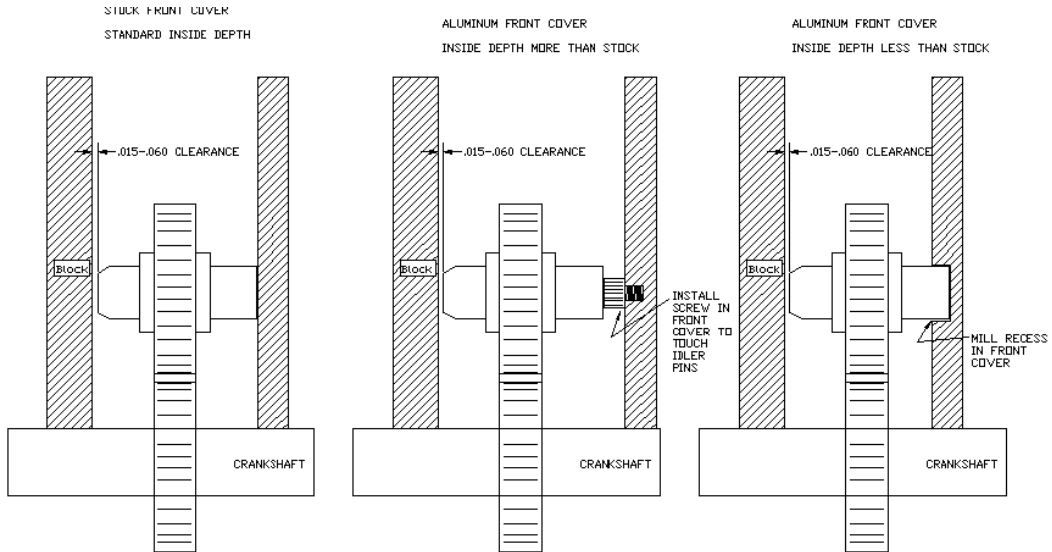

Figure 2
7. Pull the idler gears halfway out of mesh with the crank gear. With timing cover gasket in place take timing cover and push into place. Remove timing cover and that is where the idler bracket will run. If the front of the idler gears do not line up with the front of the crankshaft gears, machining of the timing cover is required. (Refer to Figure 2.)